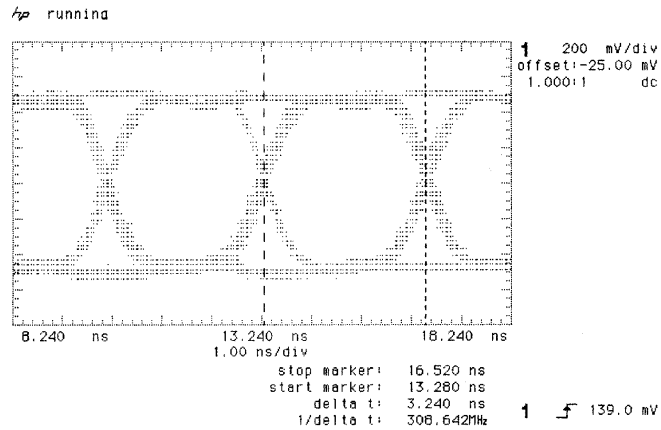

Figure 3-39
13. Adjust the Oscilloscope controls to display the eye diagram as shown in Figure 3-39, STM-1 Eye Diagram Example. Check that the waveform meets the STM-1 eye diagram mask. It may be necessary to adjust the V/div gain on the Oscilloscope.